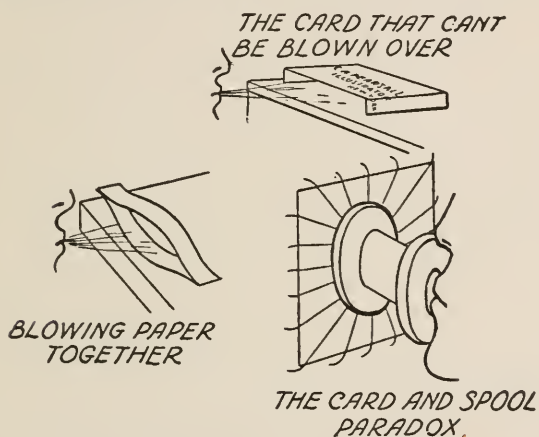

Fig. 68. Some Curious Air Jet Experiments
The Card and Spool Paradox (*Experiments Showing Variation in Pressure and Velocity*).—(1) If you will blow a stream of air with your mouth between two strips of paper, as shown in *Fig. 68*, you will find that instead of blowing them apart you will blow them together.
(2) Bend down the edges of an ordinary business card, lay it on the table, as shown in *Fig. 68*; try to blow it over and you will not succeed unless you blow so that the
(3) Now for the real experiment. Push a pin through the center of a visiting card, lay it over one end of an ordinary spool and blow through the other end as shown in *Fig. 68*. Instead of the card being blown away into space you may be surprised to find that you cannot blow it off and that the harder you blow the tighter it sticks.